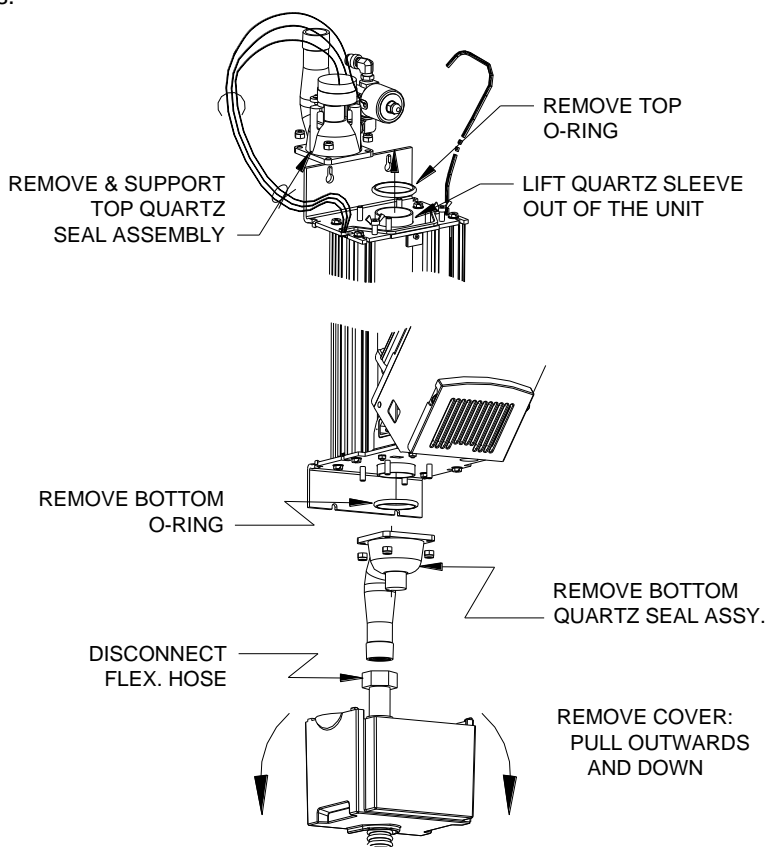

Figure 4D
Step 4: If the quartz is still not clean, it requires replacement. This is done by removing the bottom quartz seal assembly (see Figure 4D).
Step 9: Replace the bottom quartz seal assembly (see Fig. 4D) by installing the four nuts in an alternating pattern (top left, bottom right, bottom left, then top right) Ensure that the connection port is at the backside of the unit